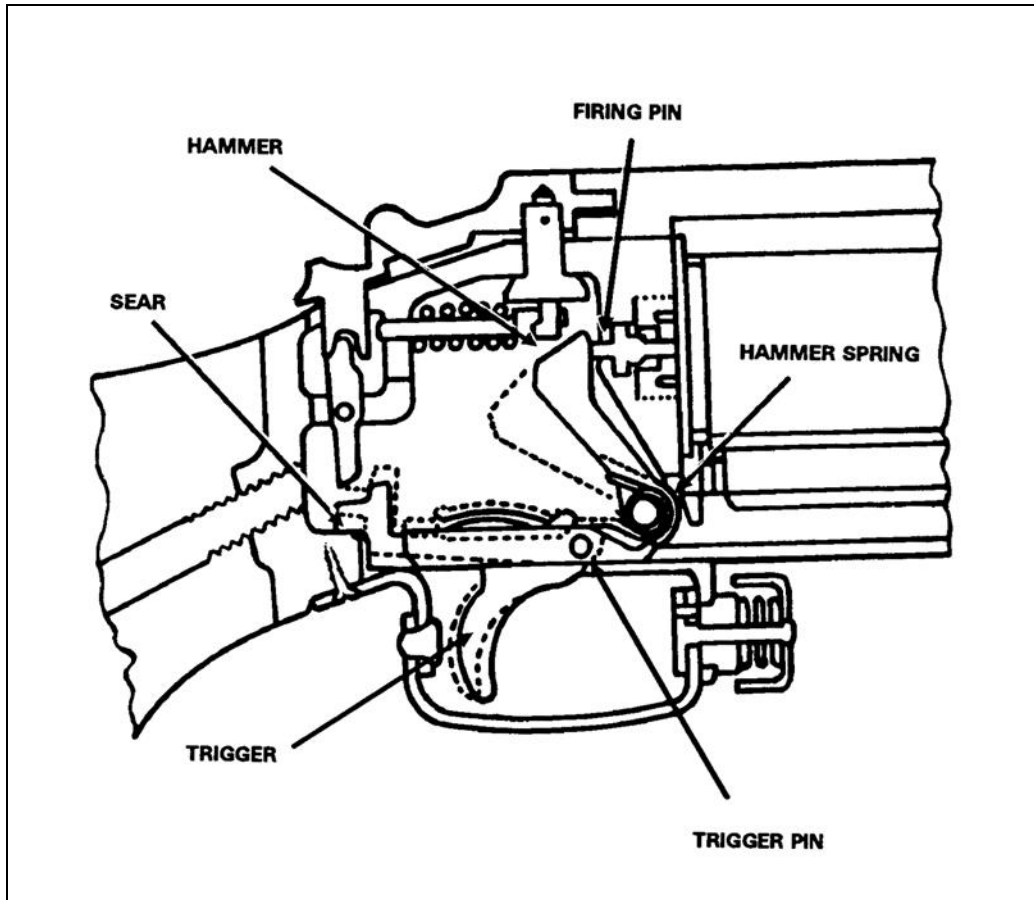

Figure A-18. Firing the weapon.
h. **Firing.** As you pull the trigger rearward, it rotates on the trigger pin. The rear of the trigger lifts the rear of the sear, causing the nose of the sear to disengage from the hammer. This releases the spring-driven hammer, which strikes the firing pin and drives it forward to strike the primer of the cartridge. When you release the trigger, the hammer settles back slightly, allowing the firing pin spring to withdraw the pin from the face of the retainer (Figure A-18.).